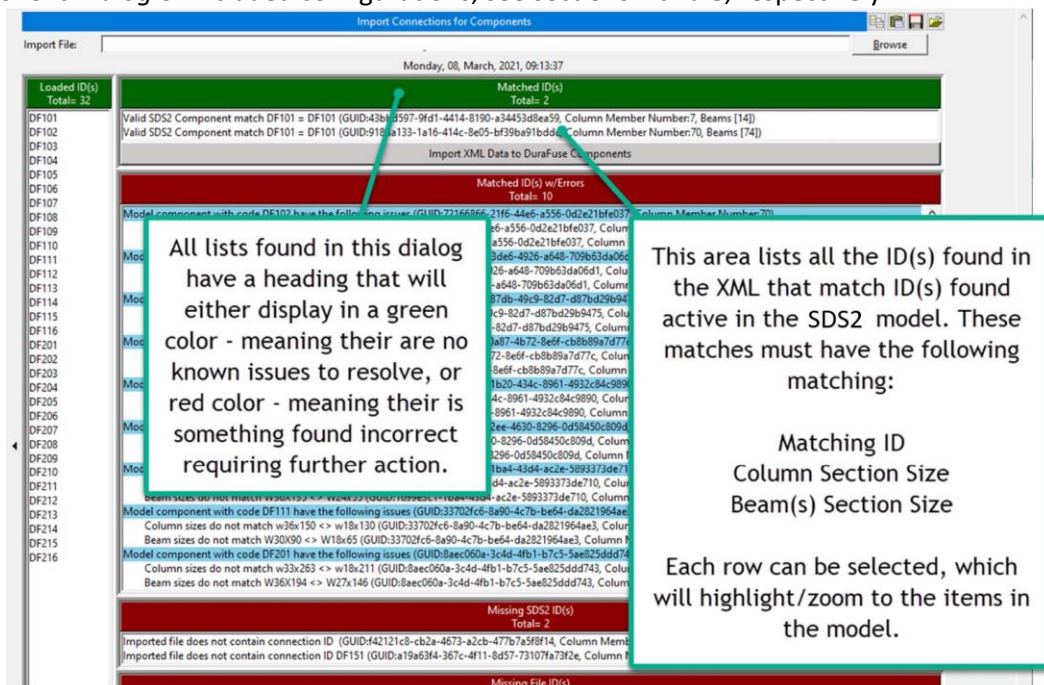

Figure 15. Matched Connection ID's
4. Once the import is complete, there are several sections in the dialog that will let the user know if the components were added successfully or if there are any errors. See Figure 15 through Figure 18 for an explanation each section of the window. Reported items: